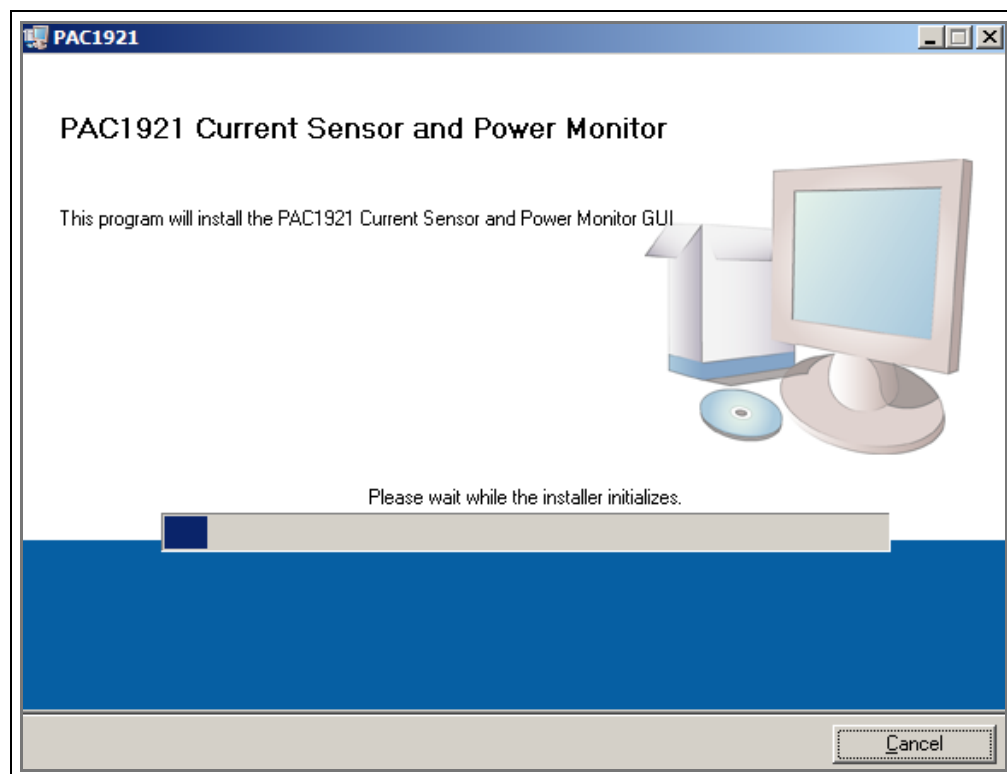

FIGURE 2-1: Software Installation – Initialize Window.
1. Download the software archive from the board's web page, unzip it and double-click the `Setup.exe` to start the installation. Figure 2-1 shows the initial installation screen, which displays briefly as the setup program loads.